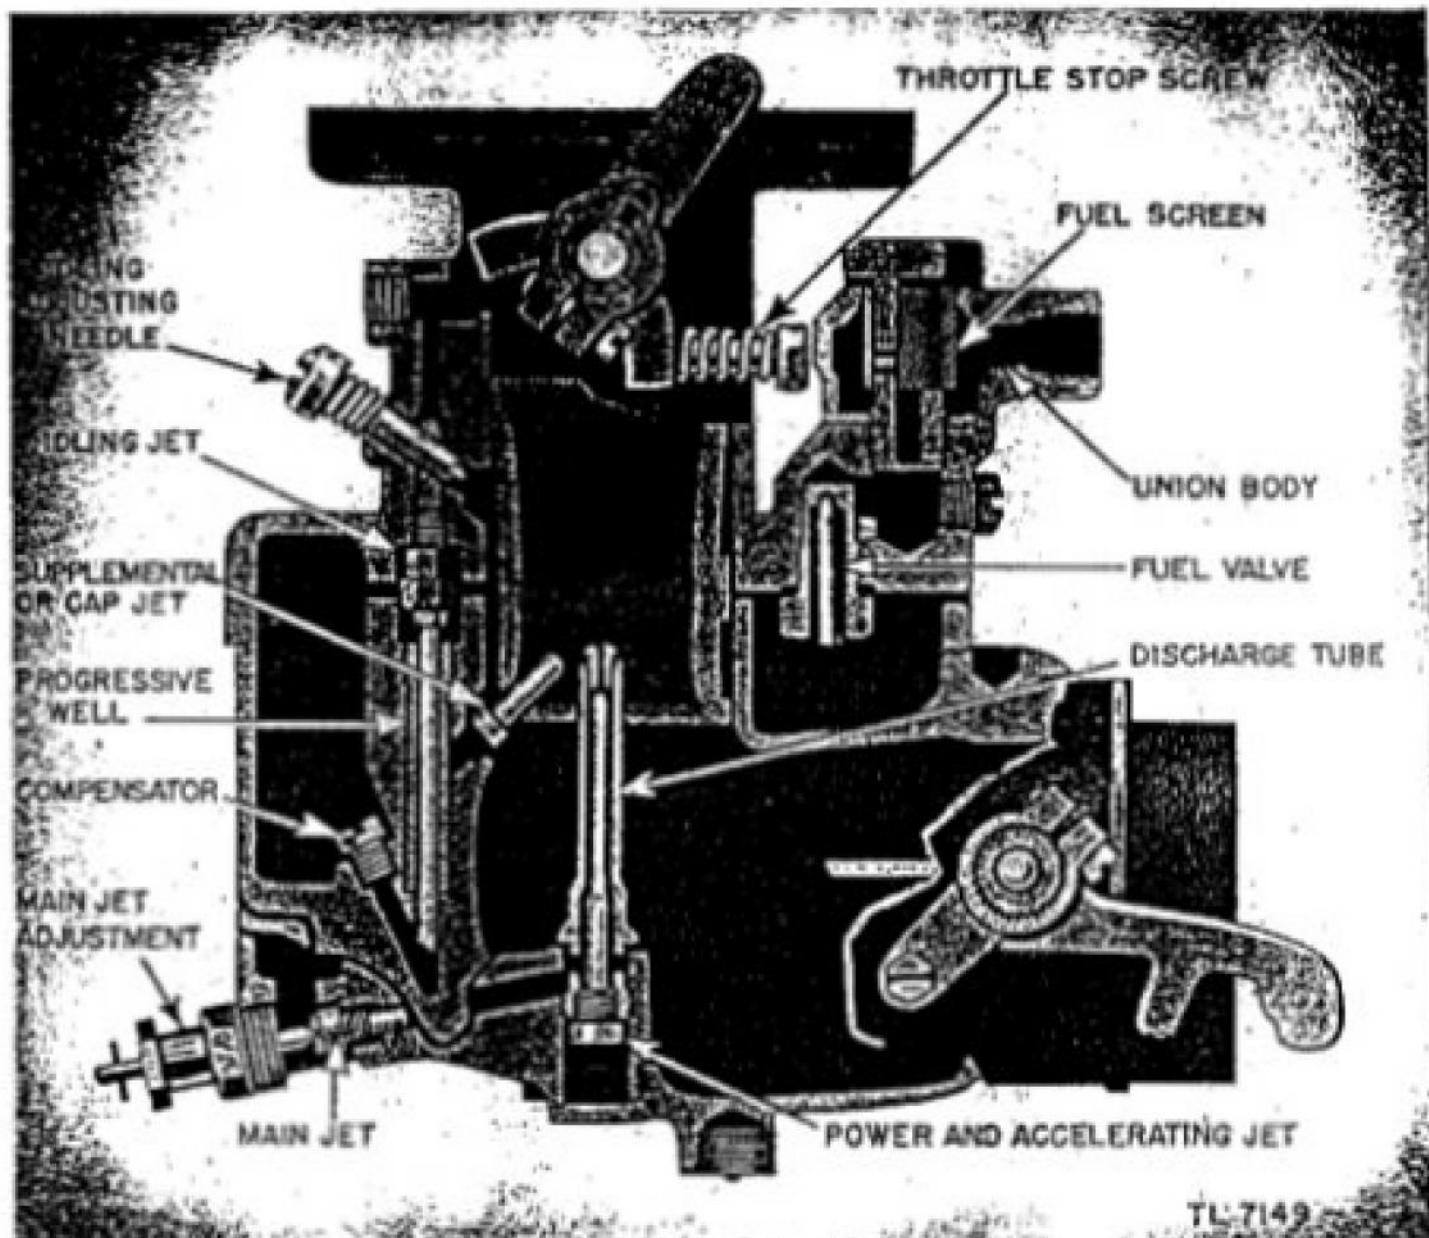

Figure 7. Cross-section view of Zenith carburetor, model 480 series.
(4) *Idling.* (a) The idling system functions only on starting and idling. When the throttle is opened just past the idling position, the fuel goes the other way through the discharge tubes and the idling system is automatically out of operation. (See fig. 7.)